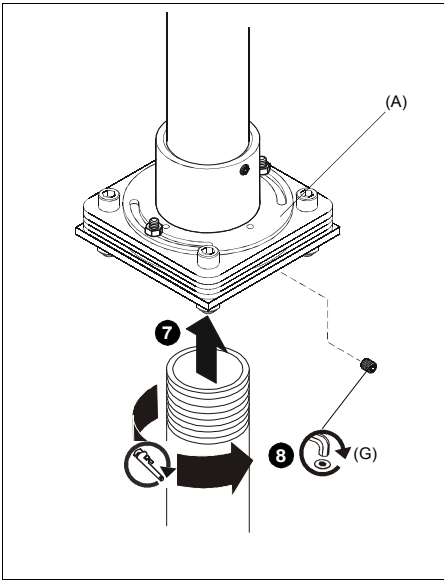

Figure 4
7. Using a pipe wrench, install 1-1/2" NPT or NPSM following ANSI/ASME B1.20.1 (Schedule 40, 0.154" minimum thickness aluminum - ASTM B221) threaded extension column (not included) into swivel adapter (A) until tight, with a minimum of four threads engaged.
8. Secure lower 1 1/2" NPT pipe to swivel adapter (A) using #10-24 x 1/4" set screw (G). (See Figure 4)